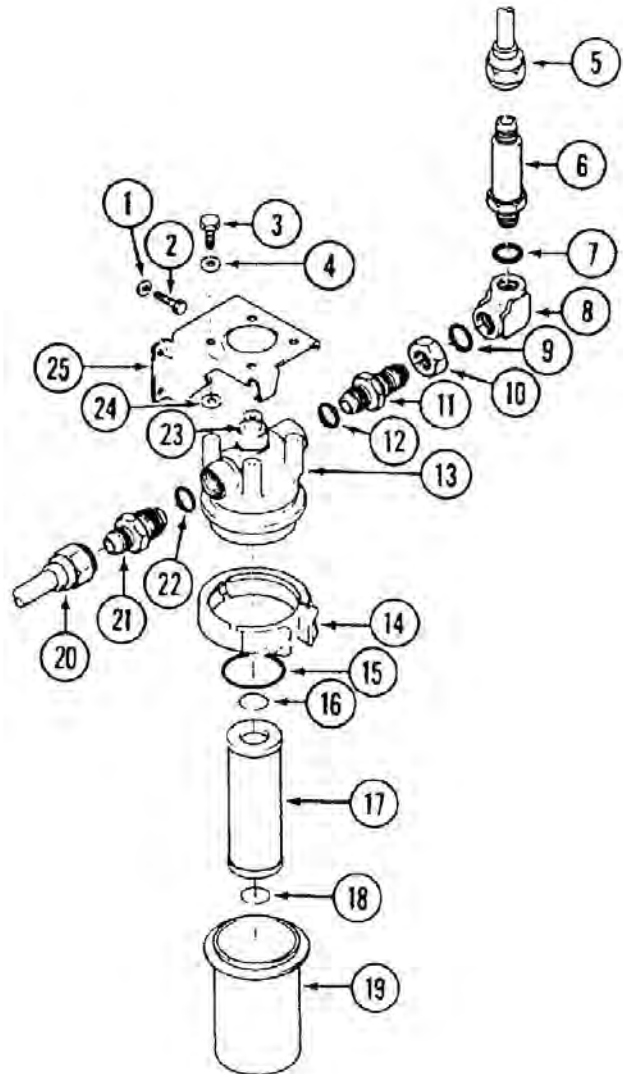

Figure 63-25. Transmission External Oil Filter
63.5.9.1.2 Place a suitable container under external filter body (19, Figure 63-25) to catch spilled oil.
63.5.9.2.1 Clean filter body (19, Figure 63-25) and filter head (13), if removed, with solvent (C-304).
63.5.9.3.1 Install filter head (13, Figure 63-25) (if removed) with outlet port aft. Use four spacers (24) between bracket (25) and head (13), and secure with bolts (3), washers (4), and lockwire (C-405). Remove plugs and caps and connect oil tube (20) from cooler to reducer (21) in filter inlet. Connect transmission hose (5) to fitting (6) in filter outlet.